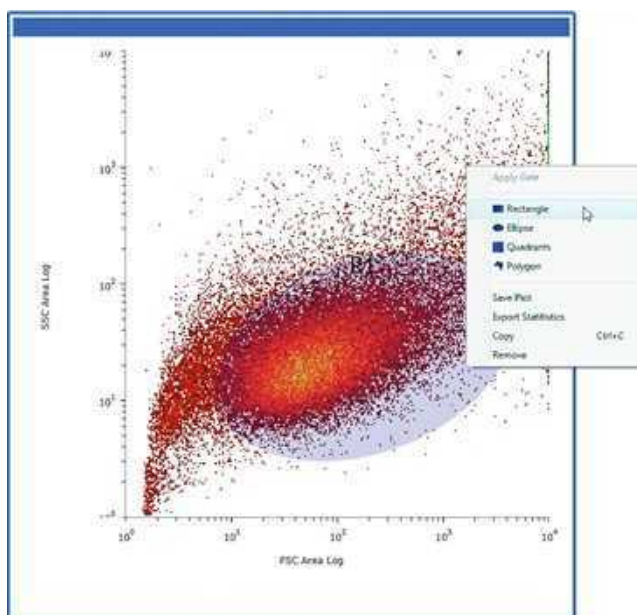

Fig. 51. Right-click option for creating regions.
2. Right click within the plot and choose a region type (Figure 51).